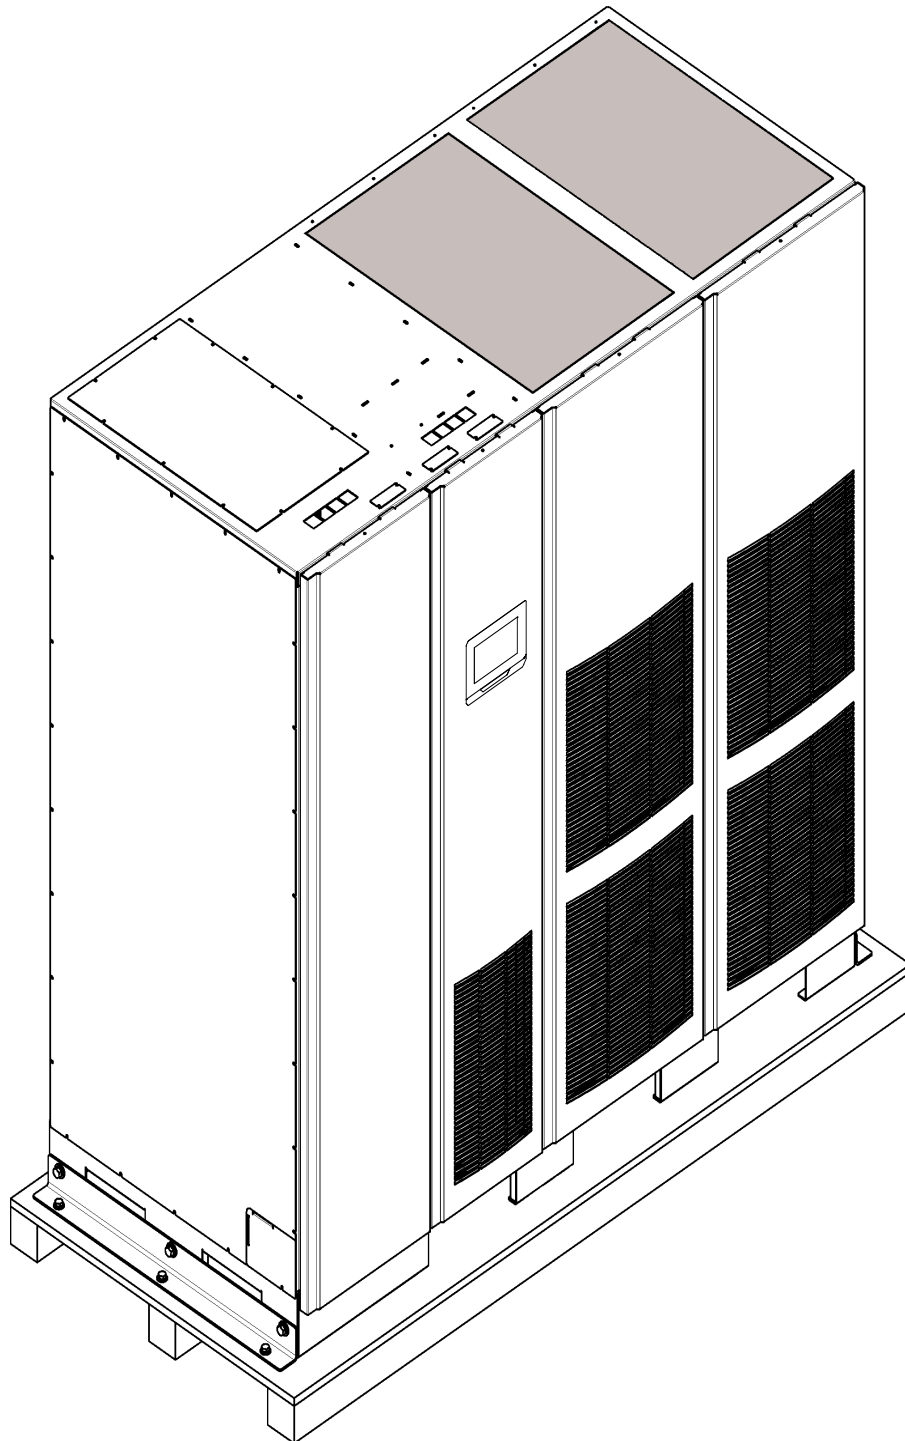

Figure 3-7. Eaton 9395P 500 kVA - 600 kVA cabinet as shipped on pallet
The UPS cabinet is palletted separately for shipping. The cabinet is shipped bolted to a wooden pallet and protected with outer protective packaging material (see Figure 3-7.)
2. Use a forklift or pallet jack to move the packaged cabinet to the installation site, or as close as possible, before unpacking. Insert the forklift or pallet jack forks from the right side of the cabinet, between the supports on the bottom of the pallet. See Figure 3-7 on page 36 for the location of the UPS center of gravity.